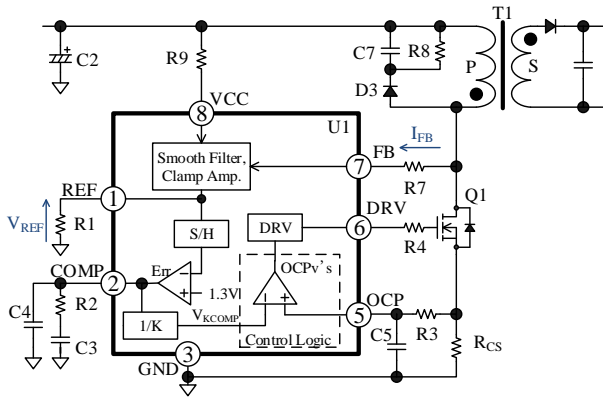
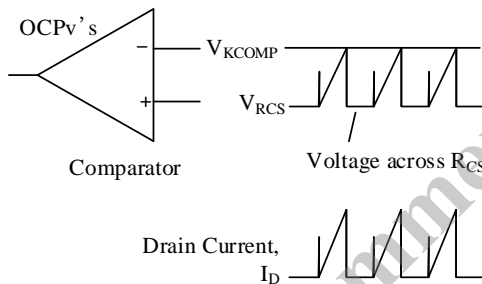

Figure 10-7. Constant Voltage Control Circuit
Figure 10-8. I_D and OCPV's Comparator Operation in Normal Operation
10.4. Constant Voltage (CV) Control
For the constant voltage (CV) control of the output voltage, the IC uses a peak current mode control that provides high speed transient response and stable operation. The IC compares V_{RCS} with the internal reference voltage, V_{KCOMP} , by the internal comparator (OCPV's), and controls so that the peak value of V_{RCS} gets close to V_{KCOMP} . Where, V_{RCS} is the voltage across of the current detection resistor, R_{CS} . The REF pin voltage is generated from the FB pin voltage. V_{KCOMP} is a value obtained by inverting the sampled REF pin voltage by the error amplifier (see Figure 10-7 and Figure 10-8). The following equation shows the relation between the REF pin voltage and the FB pin current: